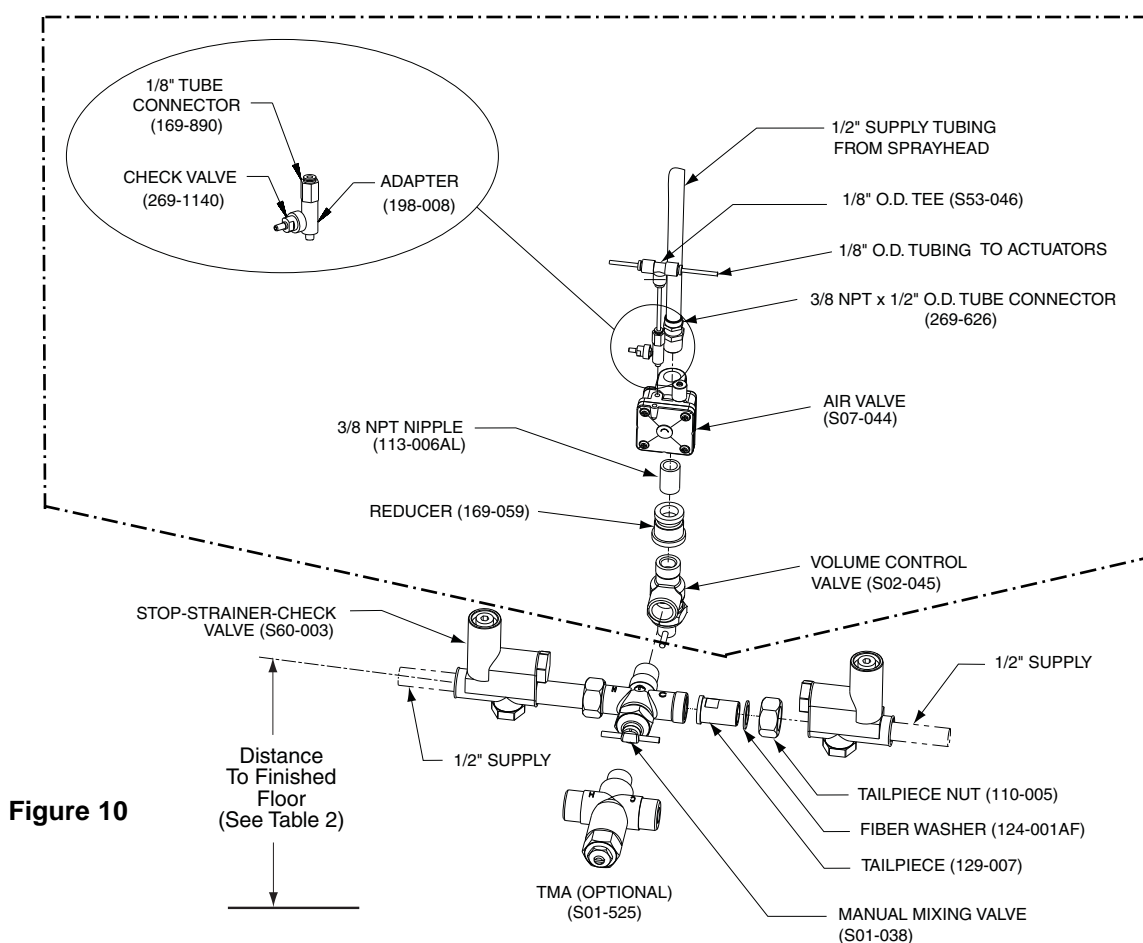

Figure 10
3. Using suitable fittings, install the complete valve assembly to the supplies as shown in Figure 10 at the approximate height indicated in Table 2.
5. Connect the 1/8" tubing from the actuators to the tee, then connect 1/8" tubing from the tube connector on the air valve to the tee (Figure 10).